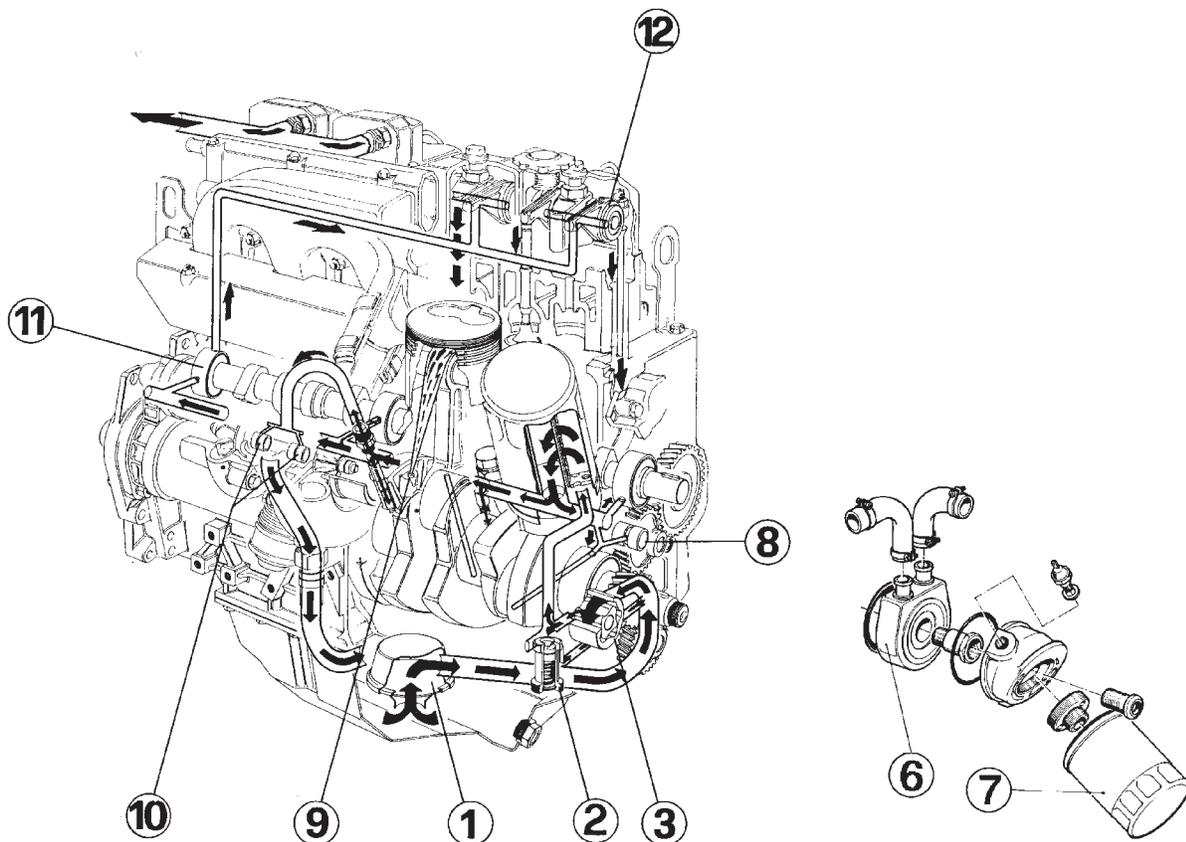

Fig. 2 Lubrication System
The pressurized system (Fig. 2) uses a rotary pump (3) located in the front of the engine block, driven by a gear which meshes directly with the crankshaft gear. All the oil sent to every lubricated part is filtered. The pump sends the oil through a pressure relief valve (2) to the filter (7) and through galleries in the crankcase to the crankshaft bearings (8), camshaft bearings (11) and turbocharger (10). The piston pins, connecting rod small ends and insides of the pistons are lubricated and cooled by oil sprayed out from jets (9) in the crankshaft mounting blocks. The lubricating oil is sent to the rockers (12) through an